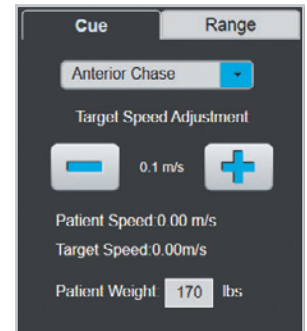

Figure 6-4: Anterior Chase Controls
4. Set the target speed by pressing the plus (+) and minus (-) buttons. See Figure 6-4.